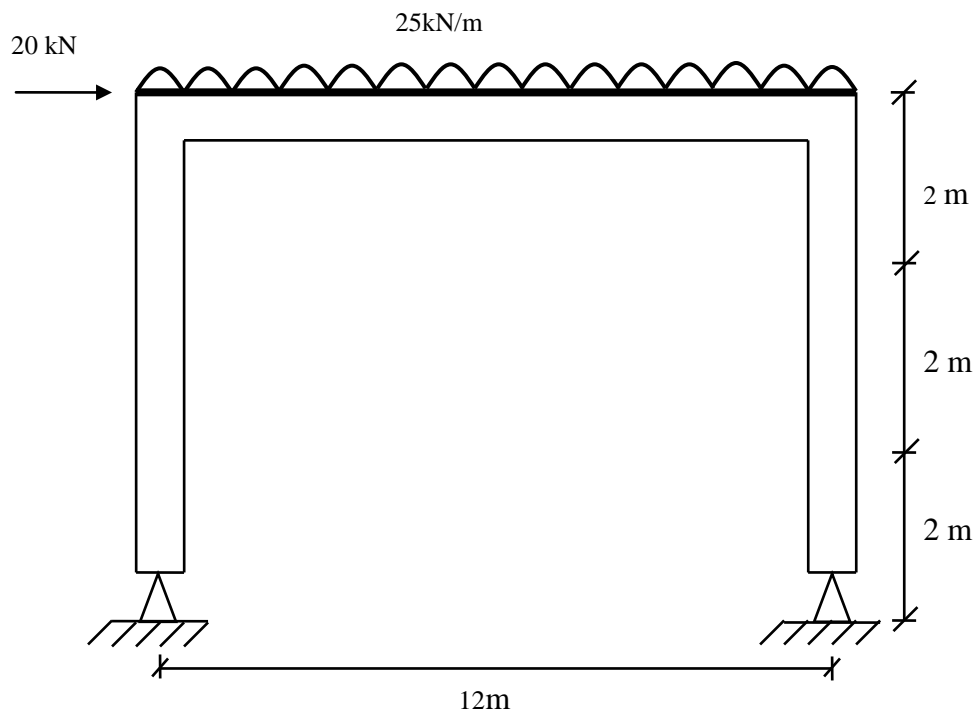

Figure 1.0
1. Design the beam and the column of steel frame shown in Figure 1.0. Total live and dead load is assumed as 25 Kn/m and the lateral load due to wind is assumed as concentrated at the knee as 20 Kn. Columns are braced about the weak axis at 2m intervals. It may be assumed that the plastic moment capacity of beam is 4 times that of columns.